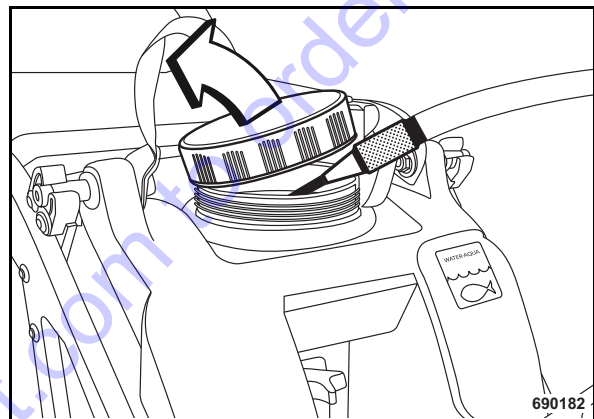

Fig. 43
- Open the water tank (Fig. 43) and fill in clean water.